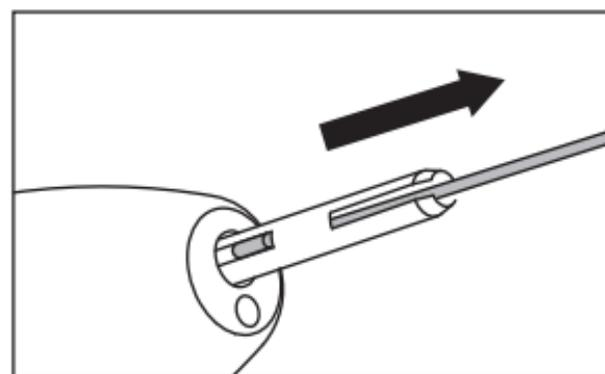

Fig. 3
- 2) Insert the supplied Bur Stopper puller into the chuck. Pull out the Bur Stopper by hooking at the slit of Bur Stopper. (Fig. 3)